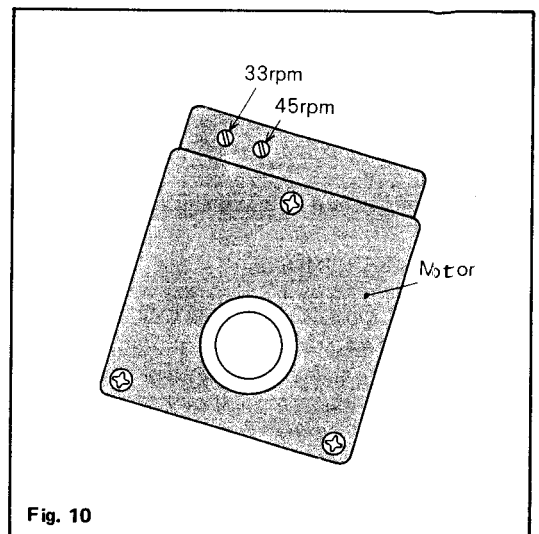

Fig. 10
- (c) Set the cueing knob to the ∇ position and move the tonearm over the turntable platter. The turntable platter should be rotating. Adjust the variable resistors (Fig. 10) so that the strobe index on the platter edge stops and holds completely still. The speed should be checked and adjusted for both modes (33 and 45 rpm).